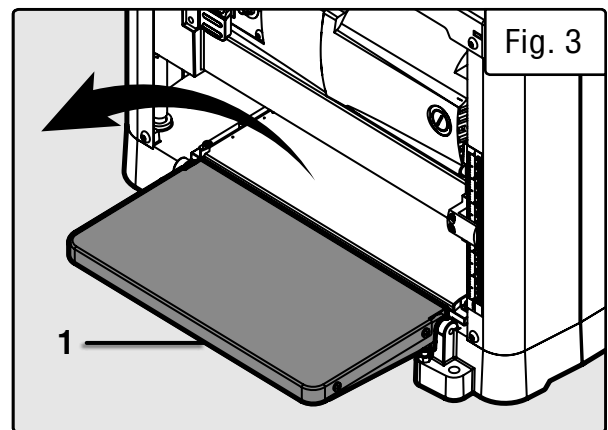

Fig. 3
1. Lower the infeed and outfeed tables (Fig. 3 - 1). Wipe off any protective coating with a shop towel.